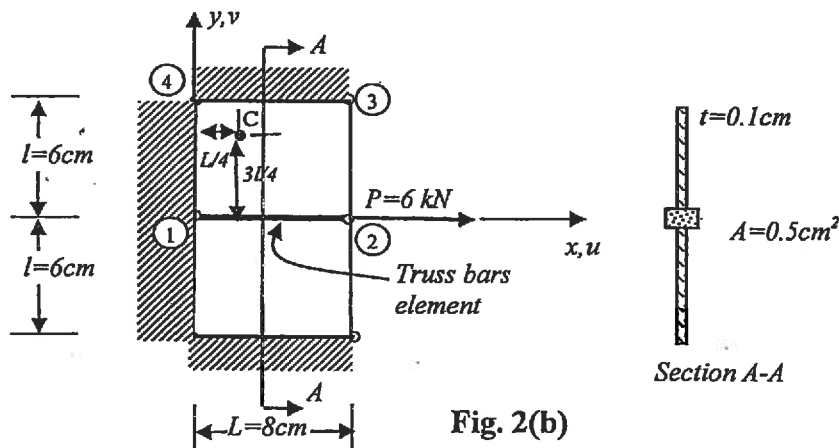

Fig. 2(b)
- 2) Calculate the strains  $\epsilon_x, \epsilon_y$  and  $\gamma_{xy}$  at point C as shown in the Fig. 2(b).